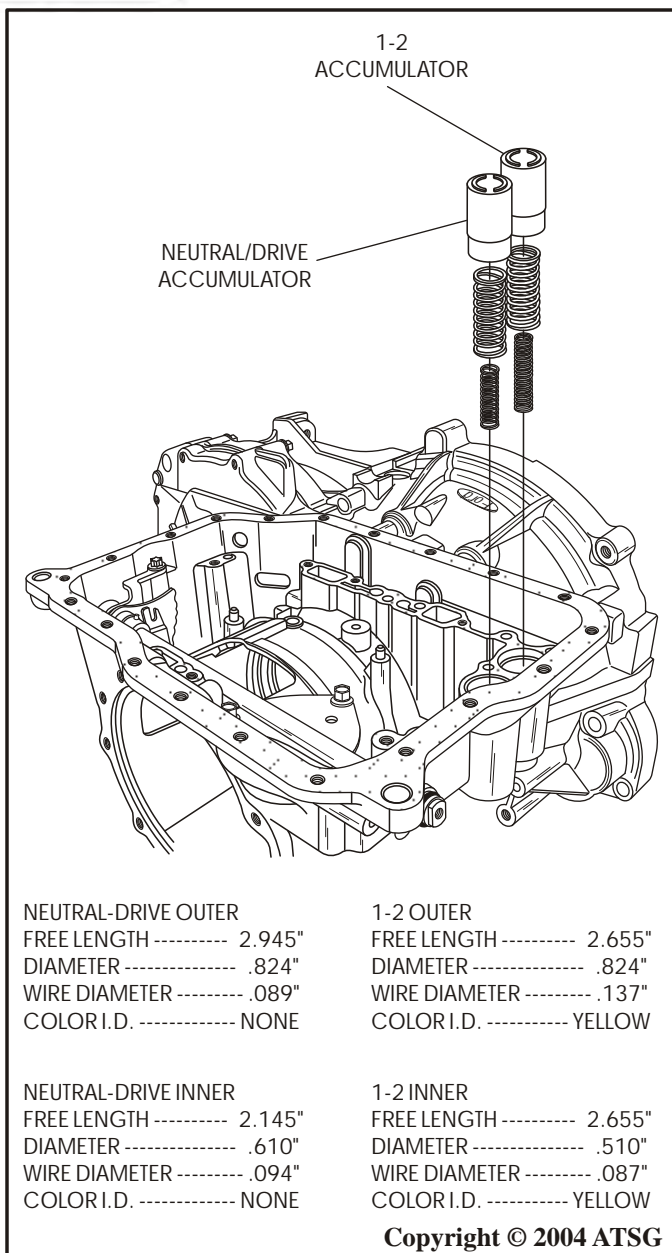

Figure 156
11. Install the 1-2 accumulator piston and springs in the bore closest to the converter housing, as shown in Figure 156.
12. Install the neutral/drive accumulator piston and springs in case bore, as shown in Figure 156.
Note: Each of the two accumulators have two springs. All four springs are different sizes. Spring specifications are listed in Figure 156. The two accumulator pistons are the same.